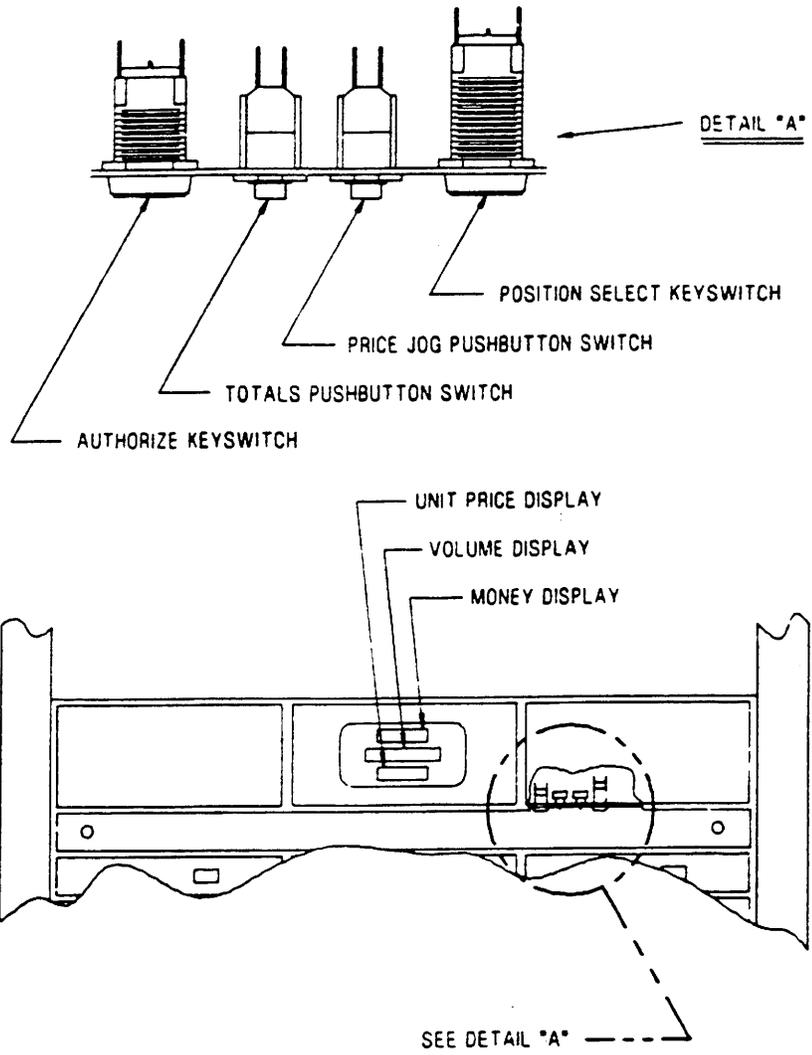

FIGURE 2-1. FUNCTION SWITCH LOCATIONS 395 DISPENSERS
The Position Select keyswitch selects the position for which the unit price is to be changed. The Price Jog pushbutton changes the price of the position selected; see Figure 2-1 through 2-5 for switch locations.
- The Position Select keyswitch is used to enter the fueling point setting mode. The Totals pushbutton sets the fueling point number; see Figure 2-1 through 2-5 for switch location.